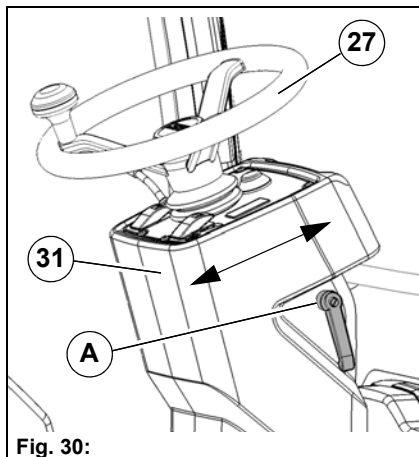

Fig. 30:
- Turn the lever **Fig. 30-A** counter-clockwise until the steering column is unlocked.